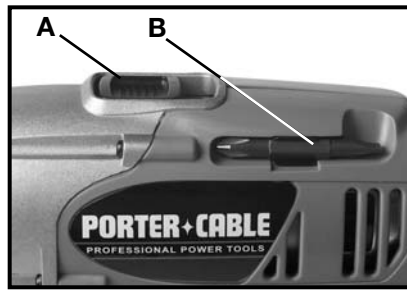

Fig. 4
The Model 966, 977, and 978 cordless tools all have a two-speed gear shift which provides spindle speed ranges of approximately 0 to 450 RPM (LOW) and 0 to 1400 RPM (HIGH) for Models 977 and 978, and 0-400 RPM (LOW) and 0-1300 RPM (HIGH) for Model 966. To change speed ranges, release trigger switch to stop motor. Slide speed selector (A) Fig. 4 backward for HIGH speed or forward for LOW speed.
Convenient storage areas with retaining clip (B) Fig. 4 for screwdriver bits are provided on each side of the tool.